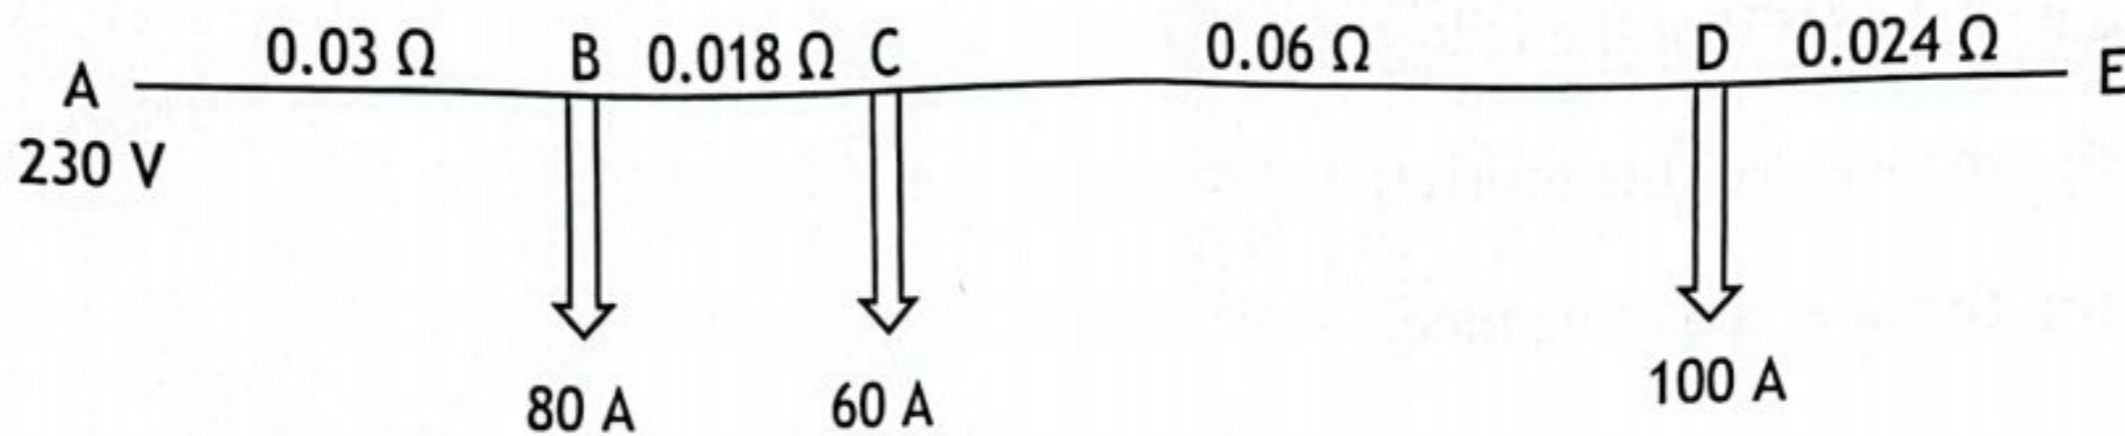

Fig Q1
- 0 (a) Fig Q1 represents a 230 V, 2-core RADIAL distributor with three loads. The go + return resistances for each cable section are shown.
- (i) the load voltage at D; (5)
- (ii) the total power loss in the distributor. (2)
- (b) Points A and E of the distributor in Fig Q1 are connected to create a RING distributor supplied at 230 V.